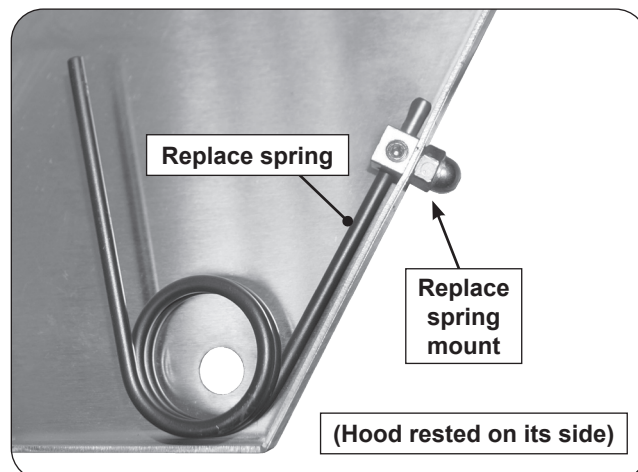

Fig. 2-1 Replace spring and spring mount (on hood)
5. **HOOD:** remove the old spring and spring mounting hardware, then replace with the new spring and mounting hardware. Ensure the spring is oriented exactly as shown in Fig. 2-1.